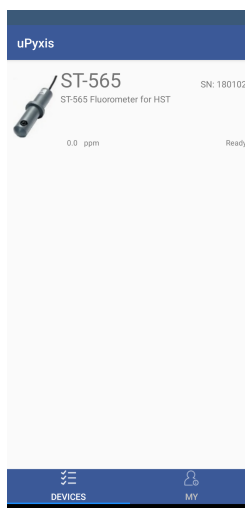

Figure 6.
3. If the connection is successful, the ST-565 Series and its Serial Number (SN) will be displayed (Figure 6).